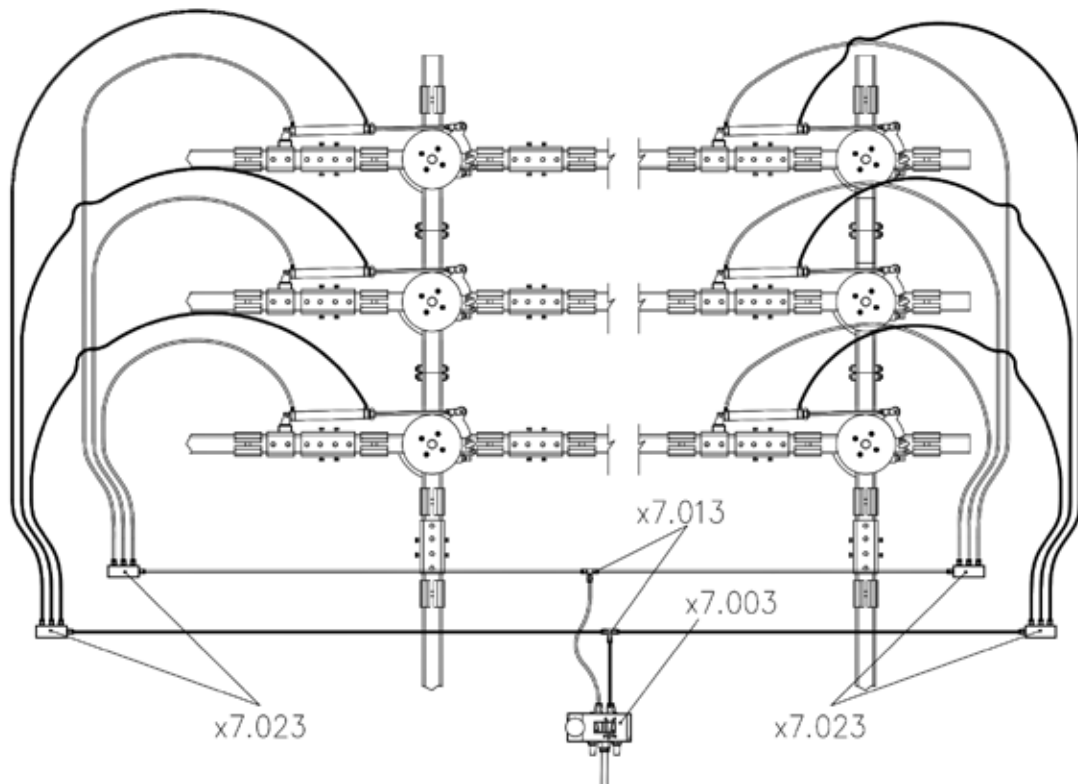

Fig. 36
- The manipulation of multiple turn tables in consecutive positions is achieved through a single pneumatic operation, using air manifolds, as illustrated in fig. 36 below.